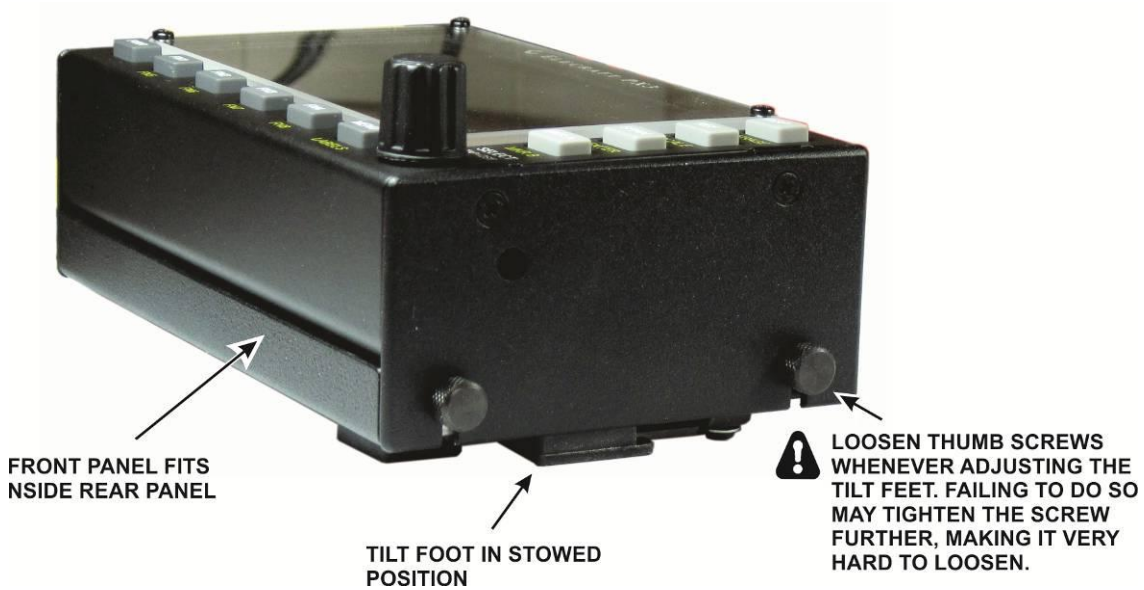

Figure 46. Assembling the Enclosure.
□ Assemble the front panel assembly and rear cover as shown in Figure 46 and tighten the thumb screws only until snug. To use the tilt feet, loosen the two rear thumb screws and swing the feet down, then retighten the thumb screws.